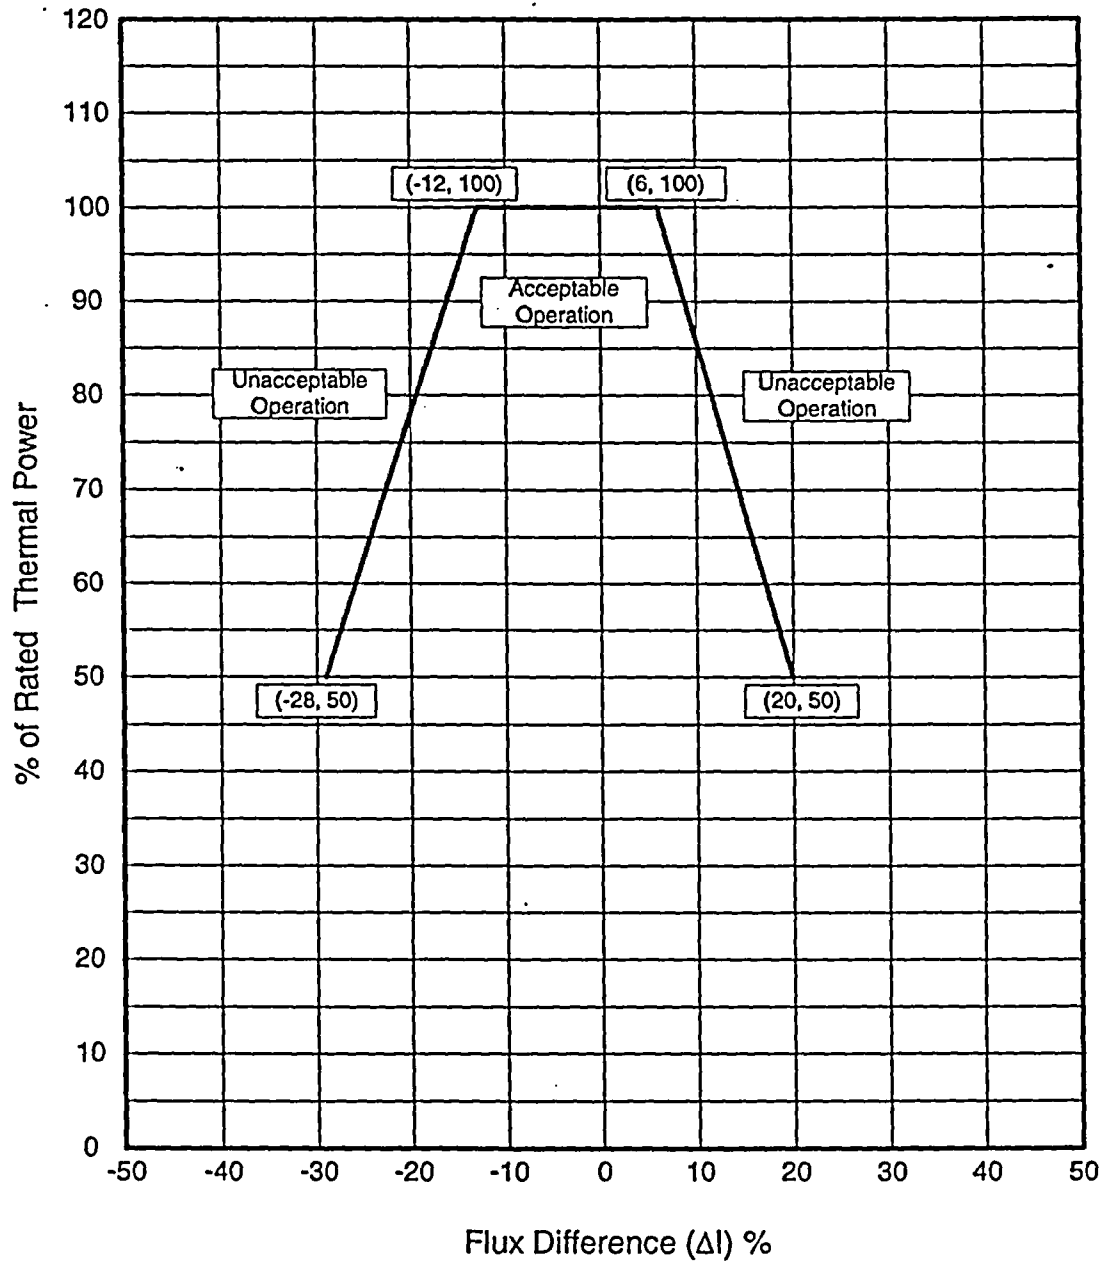

Figure 3
2.6.1 The AFD limits for Cycle 7 are provided in Figure 3.